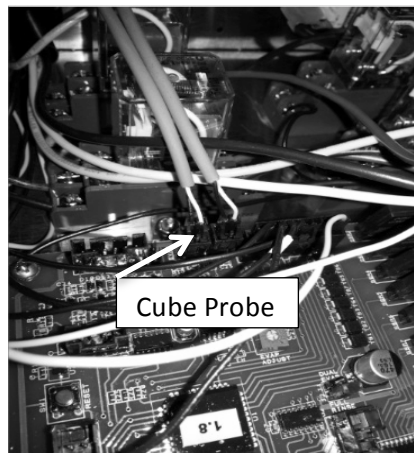

Figure 10
2. The cube side probe is located on the control box and is labeled EVAP (Left Side). The location is shown in **Figure 10**.